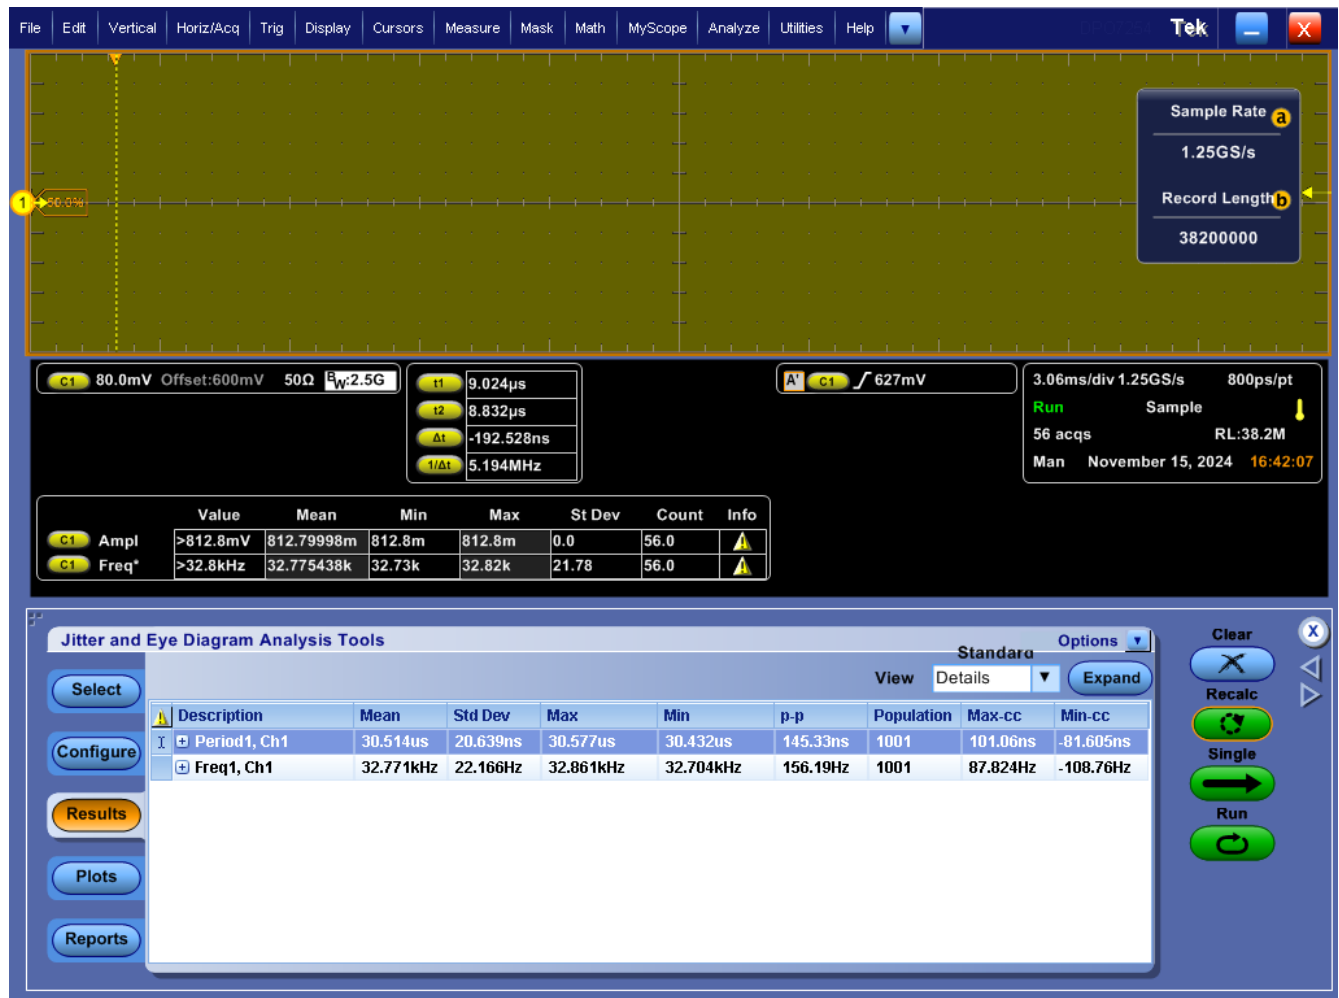

Figure 2. 32.768kHz with Low-Power DCO Mode
- Figure 2. 32.768kHz with Low-Power DCO Mode3
Example: For 5P35021B/5P35023B, 0x2A[3] = 1, select DCO mode (see Figure 2).